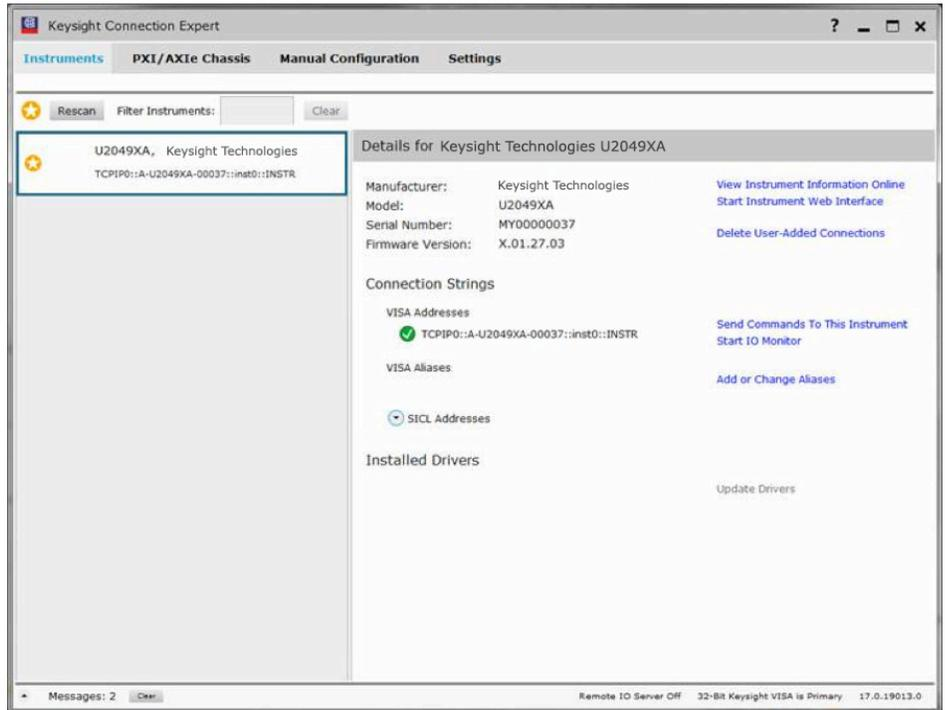

Figure 2. U2049XA LAN power sensor LAN interface detected and added through IO Libraries Suite
8. IO Libraries Suite will auto-detect and establish the LAN connection of the U2049XA LAN power sensor as shown in Figure 2.